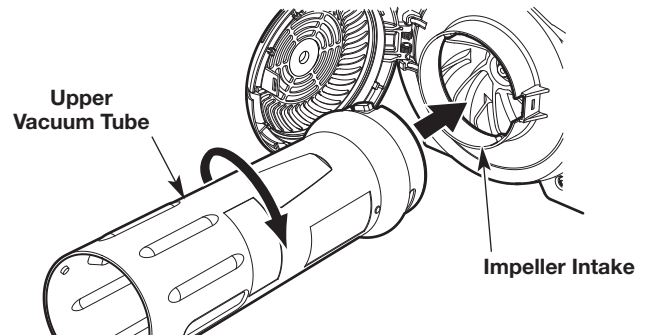

Fig. 6
4. Insert the upper vacuum tube into the impeller intake (Fig. 6).
5. Twist the upper vacuum tube clockwise with both hands until it locks into place (Fig. 6).